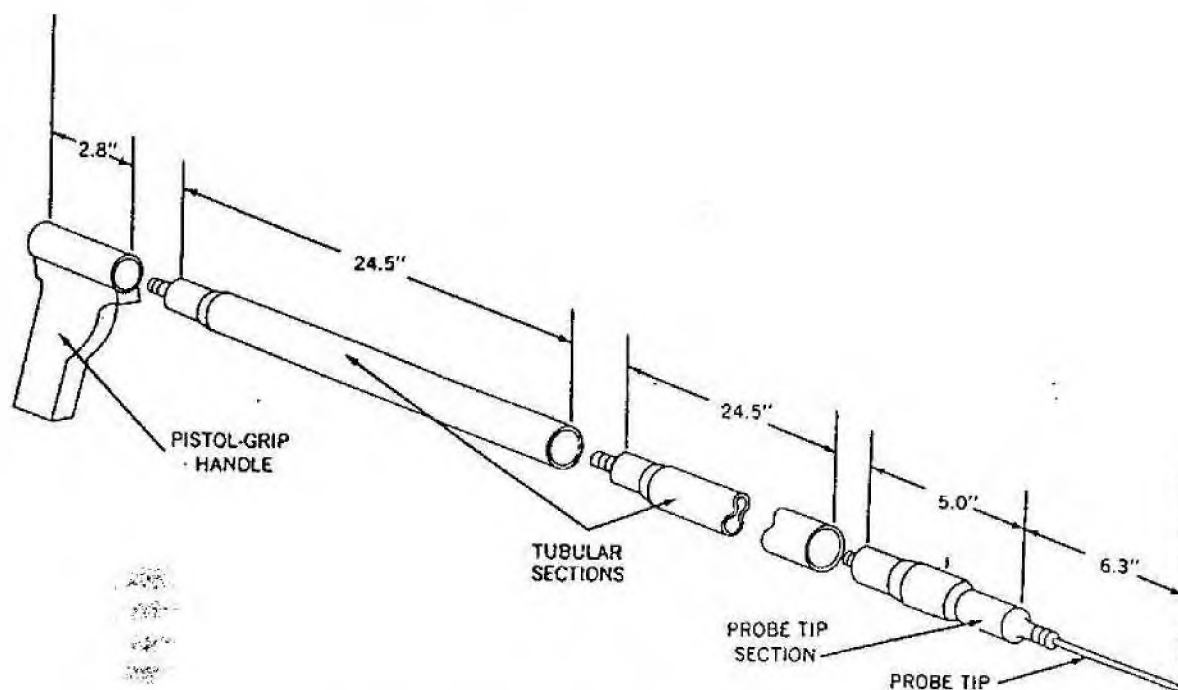

Figure 10-1. Mine probe No. 4 (United Kingdom).
(2) *Mine probe, No. 4 (United Kingdom).* This device (fig. 10-1) has a pistol grip handle,